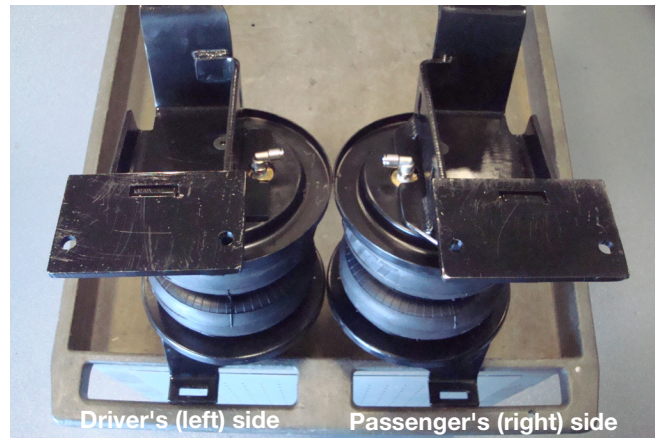

Fig. 13
- Fig. 13 shows driver's (left) and passenger's (right) side assemblies.